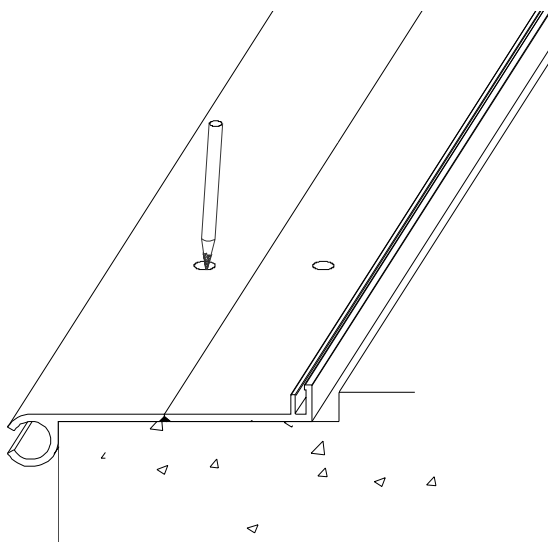

Figure 4
STEP 8. Select a base member, and place it into the blockout in the installed position at the location determined in Step 7. Ensure that the base member is level, flush with the finished floor, and plumb with the edge of the joint. Using the base member as a template, mark the locations for the anchors on the concrete (see Figure 4).